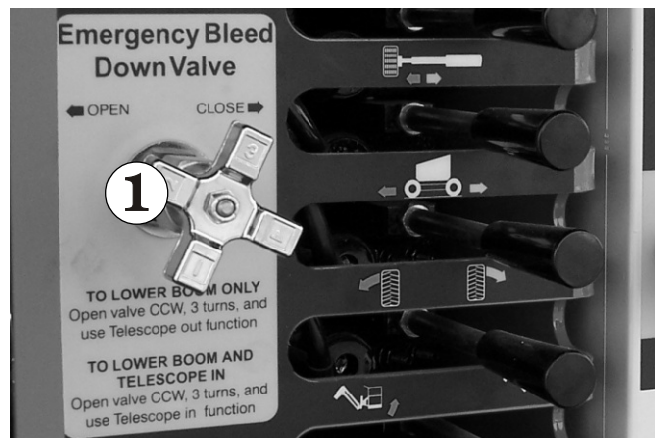

Figure 8.6—Emergency Lowering Knob
1. Slowly turn the knob¹ (refer to Figure 8.6) to open the bleed down valve. Control the rate of descent by turning the knob.